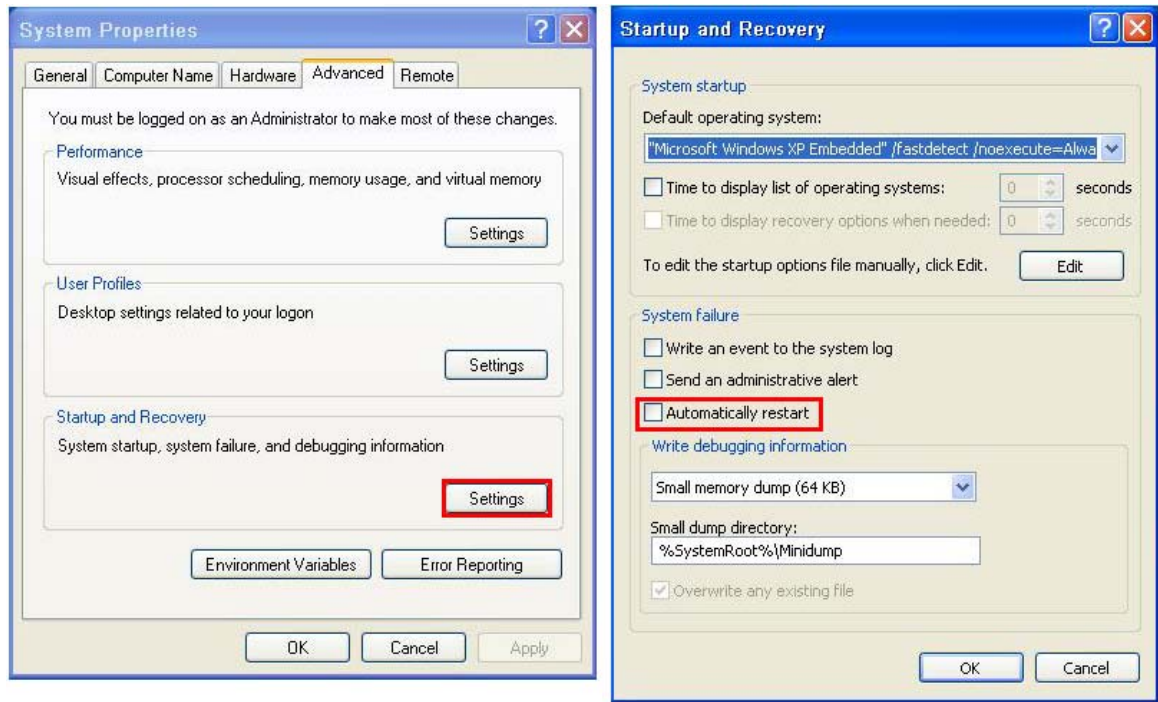

Figure D-23: Disable Automatically Restart
- Step 3:** **Disable the automatically restart function before creating the factory default image.** Go to: My Computer → Properties → Advanced. Click the Settings button of Startup and Recovery. Deselect “Automatically restart”. Click OK to save the settings and exit. (See Figure D-23)